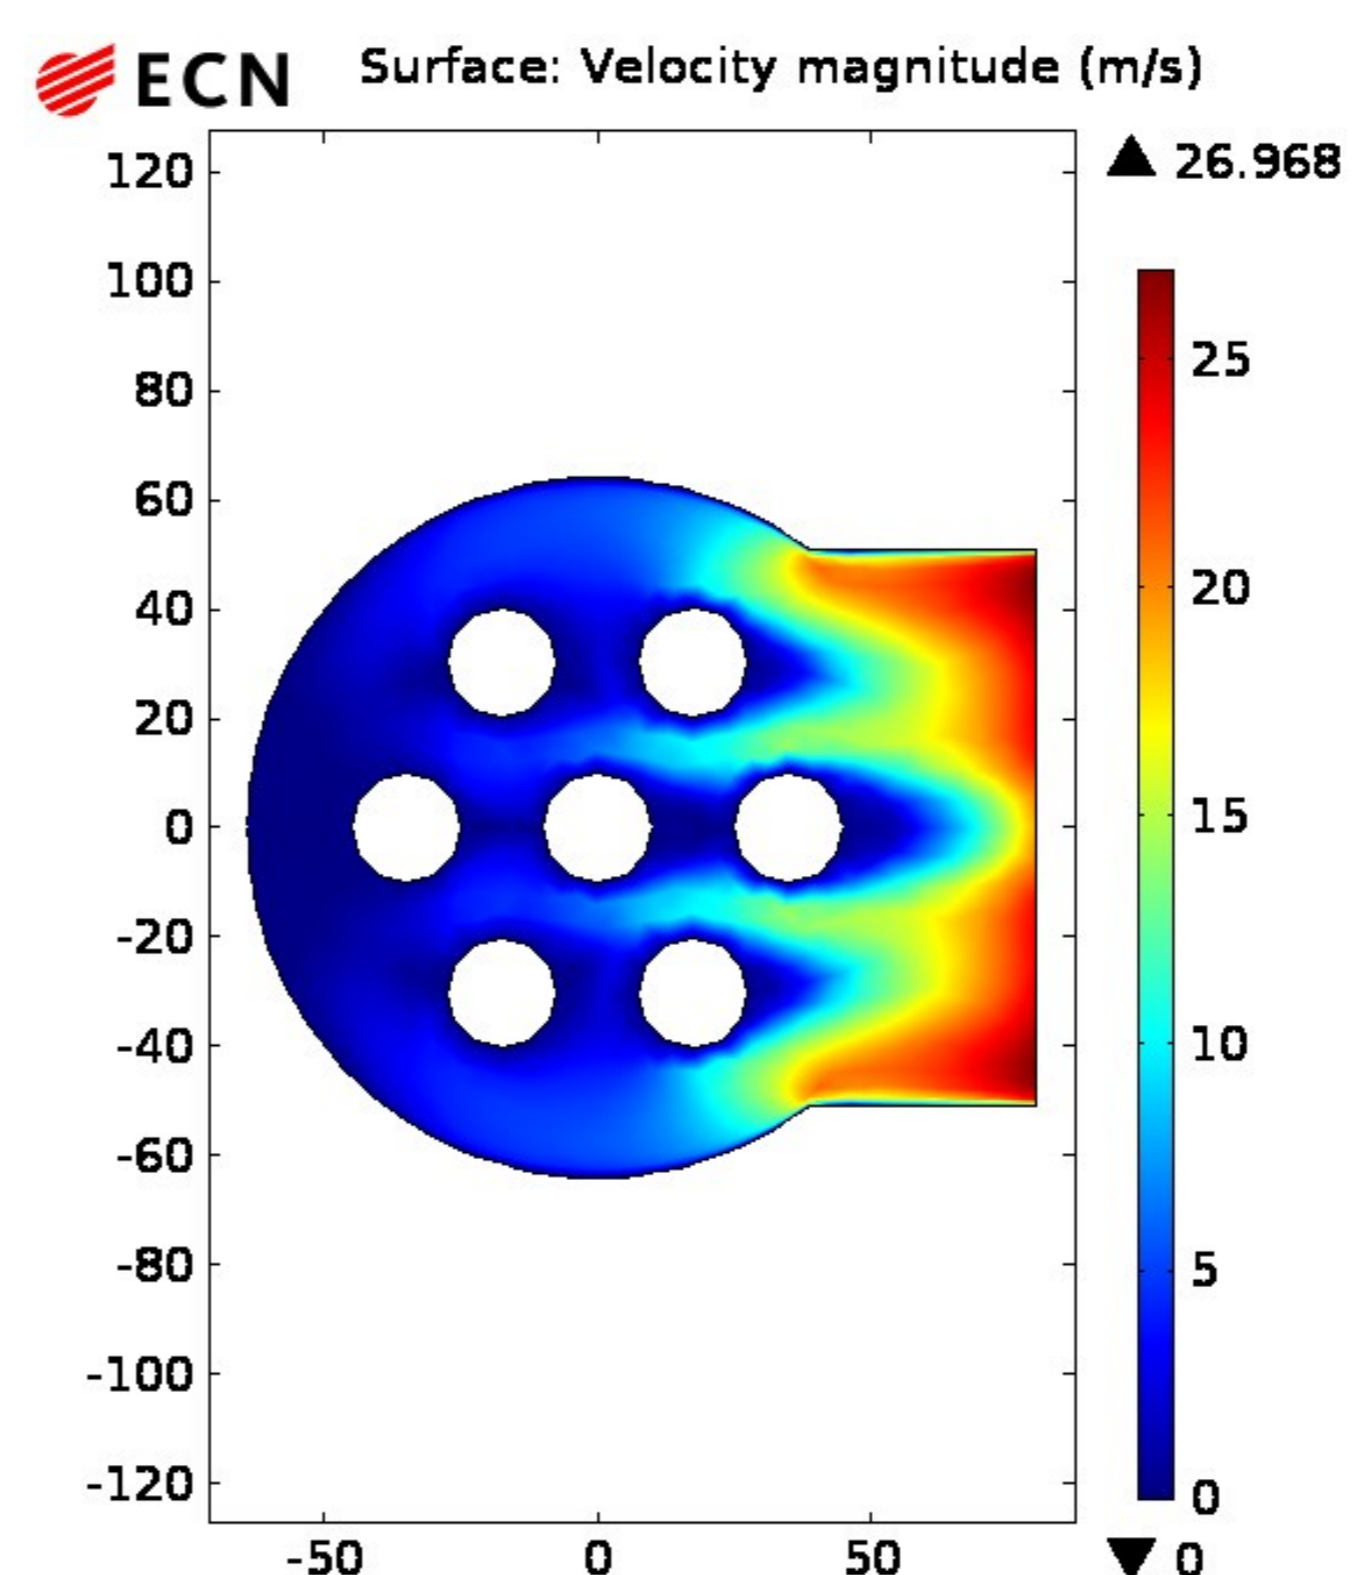

Figure 3. Velocity 7x4
- Velocity maximum 27 m s⁻¹ (Fig. 3)